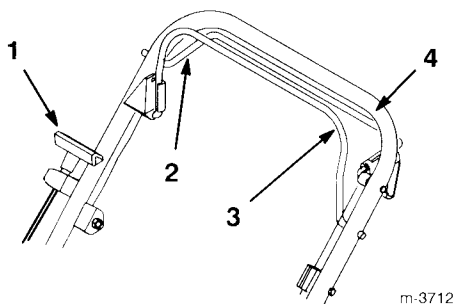

Figure 11
The starter handle, the blade control bail, and the self-propel drive bail are on the upper handle as shown in Figure 11.
3. Hold the blade control bail against the upper handle (Fig. 11).
Manual Starting—Pull the starter handle lightly until you feel resistance, then pull it sharply (Fig. 11). Allow the rope to return to the handle slowly.